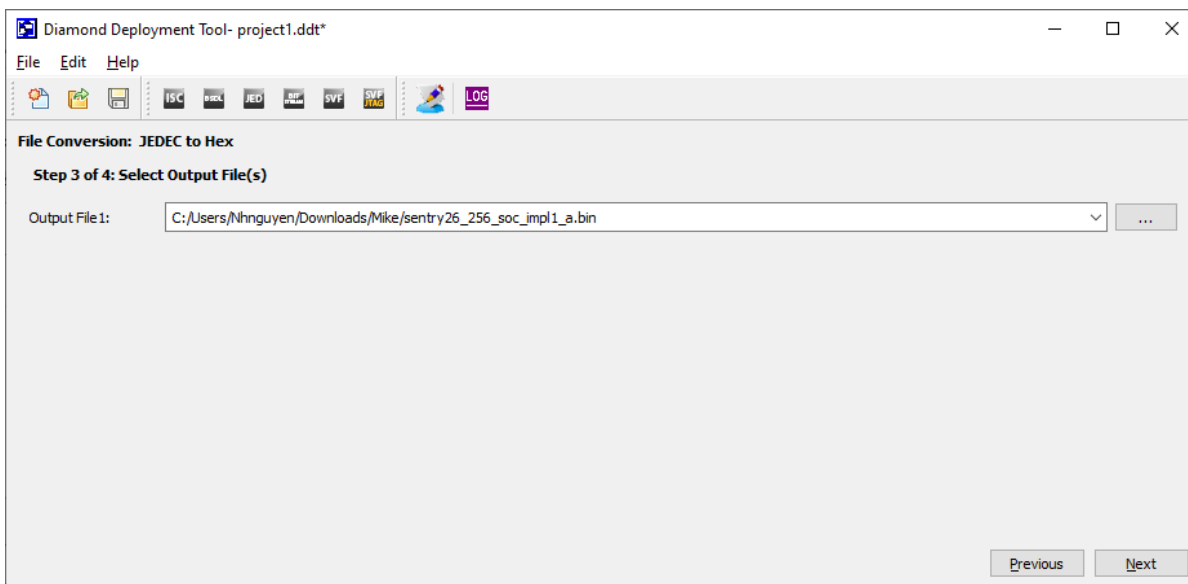

Figure 5.5. Select Output .bin File Name and Location
7. Select the output .bin file name and location, then click **Next** as shown in Figure 5.5.